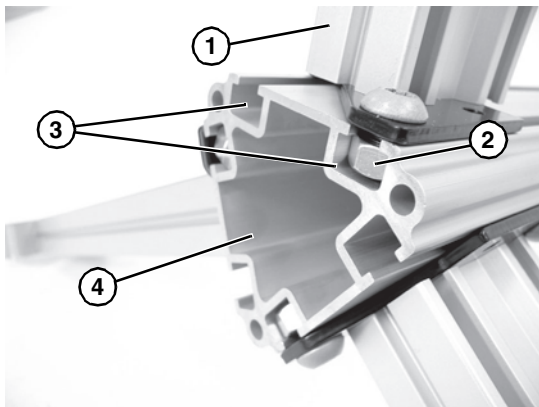

Figure 5
- Align the leg tube (Figure 5, item 1) end plate hex nuts (Figure 5, item 2) with the t-slots (Figure 5, item 3) on one side of the trileg post (Figure 5, item 4). Slide the hex nuts (Figure 5, item 2) into the T-slots (Figure 5, item 3).